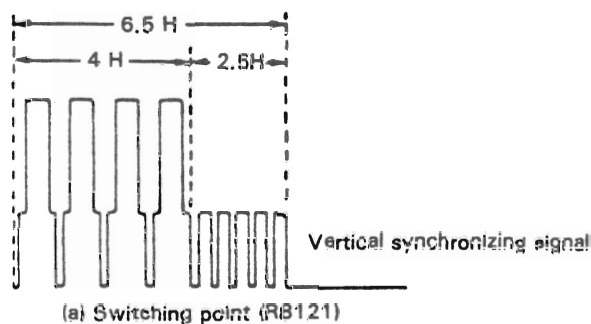

Figure 2-2.
2. Using the pub (-) trigger slope of the oscilloscope, adjust R8121 (SW POINT) to provide a waveform of 6.5 ± 0.5 H as shown in Fig. 2-2.